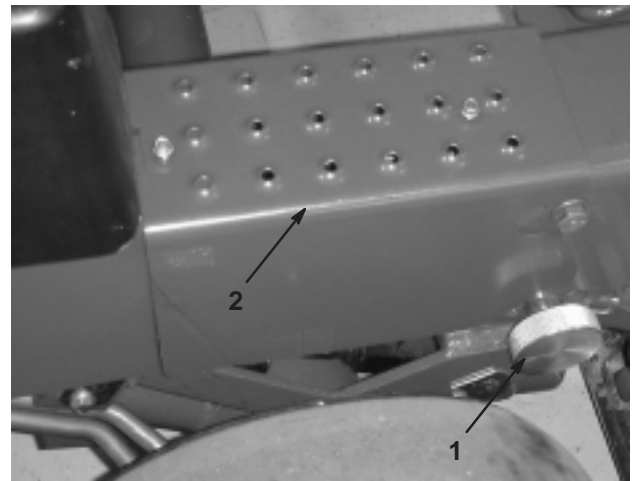

Figure 6
5. Pivot the steering arm to the upright operating position (notches). Secure with locking knob and cotter pin (Fig. 6).
6. Mount right step to frame with 2 self tapping screws (Fig. 6).